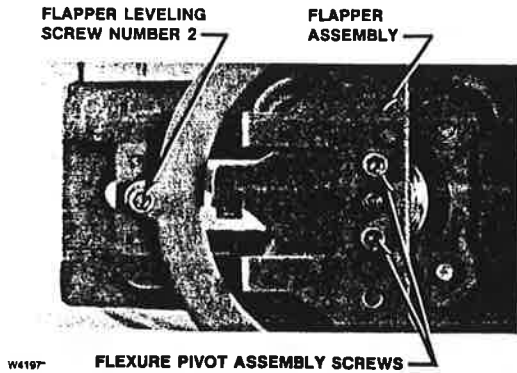
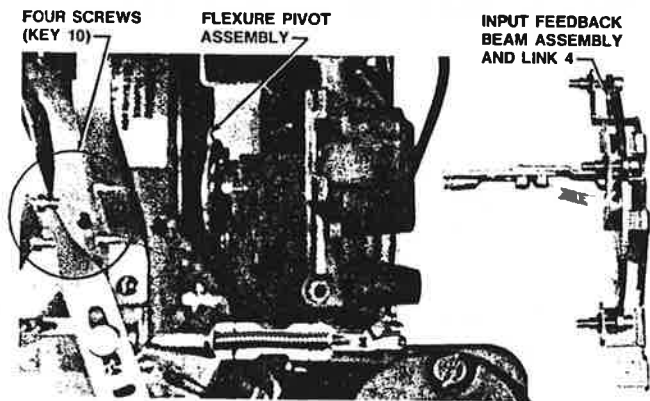

Figure 6-9. Leveling Screw Alignment
Figure 6-10. Exploded View of Flexure Pivot Assembly
11. Remove the two screws (key 12) from the flexure pivot assembly (key 9). See figure 6-9 for screw location.
12. Remove the flapper assembly and link number 4 as shown in figure 6-10.
13. Remove the four screws (key 10) shown in figure 6-10 that hold the flexure pivot assembly (key 9) to the frame.
14. Remove the flexure pivot assembly (key 9). See figure 6-10.
15. Install the replacement flexure pivot assembly with the four screws (key 10). Do not tighten the screws.
16. With the controller in the upright position, slide the flexure pivot assembly down as far as possible, and tighten the four screws (key 10).
17. Place the flapper assembly (key 11) onto the flexure pivot assembly (key 9) with link number 4 through the square hole in the frame.
18. Install the two screws (key 12) through the flapper assembly (key 11) into the flexure pivot assembly (key 9). Do not tighten the screws.
19. Align flapper leveling screw number 2 (see figure 3-1 for screw location) with the centerline of the oblong hole in the frame as shown in figure 6-9. Tighten the screws (key 12).